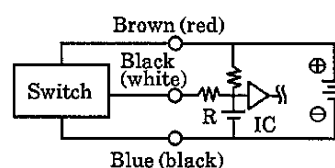

Fig. 8 Example of capacious load with current limit resistance R. Use the value from the following formula or higher for resistance R (Ω).
- When capacious load (capacitor) is connected, rush current occurs when the switch is turned on. Be sure to provide the protection circuit shown in Fig. 8.